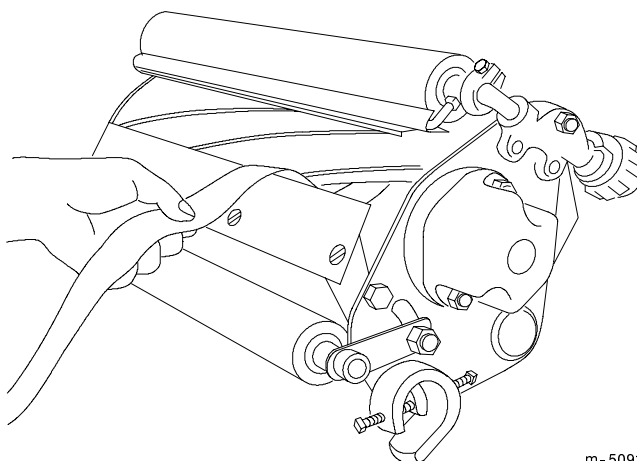

Figure 4
3. After the adjustment is accomplished, check to see if the reel can pinch a piece of paper when it is inserted from the front and cut the paper when it is inserted at a right angle (Fig. 4). It should be possible to cut the paper with minimum contact between the bedknife and the reel blades. If the reel drag is more than 7 in.-lb. (0.8 N•m), either back lap or regrind the cutting unit to achieve the sharp edges needed for precision cutting (see the Toro Sharpening Reel and Rotary Mowers Manual, Form No. 80-300PT).